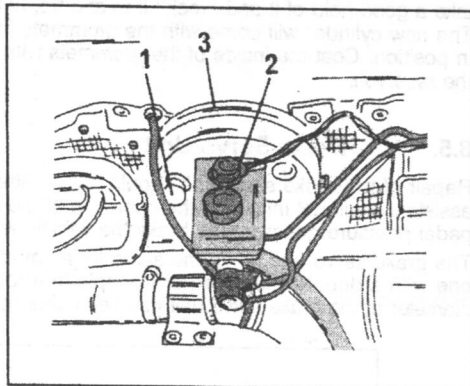

Fig. 8.16. — View of the fitted brake servo unit with the master brake cylinder.
- Unscrew the brake pipe union nuts, withdraw the pipes and carefully bend the pipes to one side. Fig. 8.16 shows a view of the fitted cylinder. The shape of the cylinder can be different, depending on the vehicle model. To reach some of the connections it may be necessary to remove the spare wheel.
A clevis pin is used to connect the push rod to the brake pedal. The vacuum hose (1) in Fig. 8.16 must be disconnected.